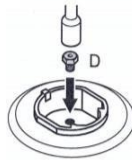

Figure 19.2
Fix the injector (D) you want to convert as shown in Figure 19.2 Place the burner in position again as shown in Figure 19.3.